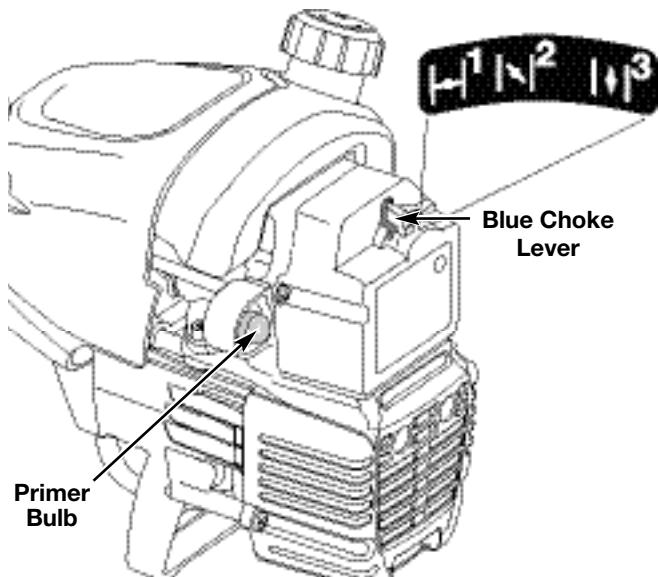

Fig. 17
2. Fully press and release the primer bulb 10 times, slowly. Some amount of fuel should be visible in the primer bulb and fuel lines (Fig. 17). If you can't see fuel in the bulb, press and release the bulb as many times as it takes before you can see fuel in it.
3. Place the blue choke lever in **Position 1** (Fig. 17).
5. Place the blue choke lever in **Position 2** (Fig. 17).
8. Once the engine is warmed up, place the blue choke lever in **Position 3** (Fig. 17). The unit is ready for use.
**IF...** the engine hesitates, return the blue choke lever to Position 2 (Fig. 17) and continue warm-up.